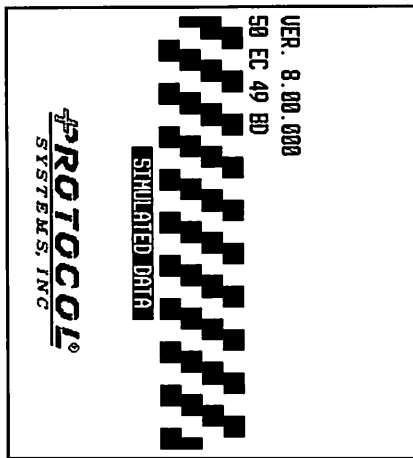

Figure 5-4. Test print
- 14 Hold down the PAPER FEED button and press START/STOP to produce a test print. Compare the printout to Figure 5-4 on page 5-14.